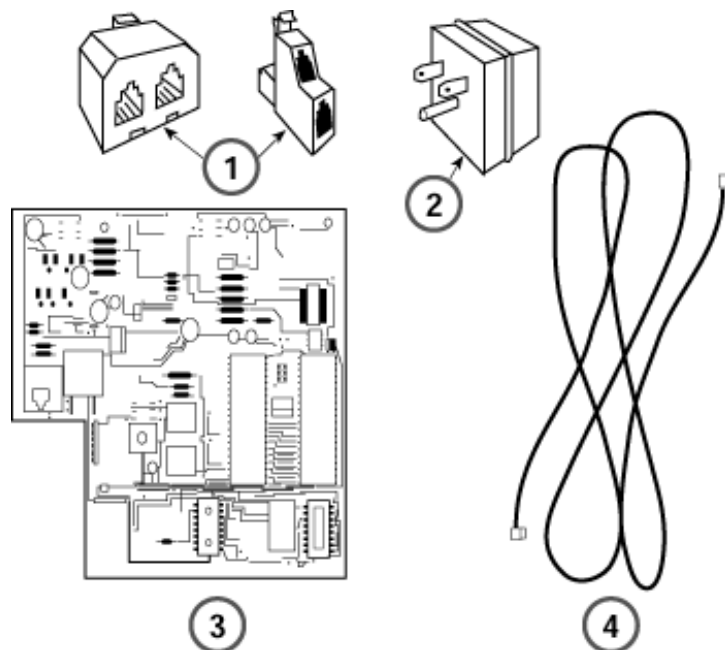

Figure 3-27. Multi-Function Module Packing List
- The MFM has two jumper blocks that are factory-set for T/R operation. The MFM is packaged with the following items, shown in Figure 3-27: